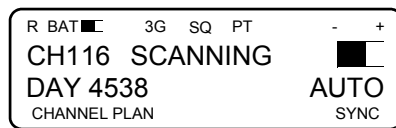

Figure 3-13. 3G Scanning Screen
The principal differences between the KDU screens displayed in 3G radio mode operation and the screens displayed in the other radio modes appear on the top-level screens. To enter 3G radio mode press the [MODE] key on the KDU until 3G is displayed then press [ENT]. The AN/PRC-150(C) will now enter into 3G radio mode and the 3G scanning screen will be displayed. Figure 3-13 depicts the 3G scanning screen. The items displayed on this screen are as follows:
- The Squelch (SQ) and PT/CC indicators on the top line have the same significance as in other radio modes.
The width of the bar in the sync meter display indicates what fraction of this time remains before the radio can no longer be assumed to be in sync. Immediately after the AN/PRC-150(C) is synchronized, the bar occupies the full width of the sync meter display. When the bar disappears, the AN/PRC-150(C) is no longer reliably synchronized. The bar width shown in Figure 3-13 indicates that roughly 60% of the sync reliability interval remains. This is how the display would appear if the AN/PRC-150(C) was synchronized, powered off for eight (8) minutes, then powered back on, since 20 minutes minus eight (8) minutes equals 12 minutes, and 12 minutes is 60% of 20 minutes. Frequent 3G calls to the TOD server will keep the time sync 100%.